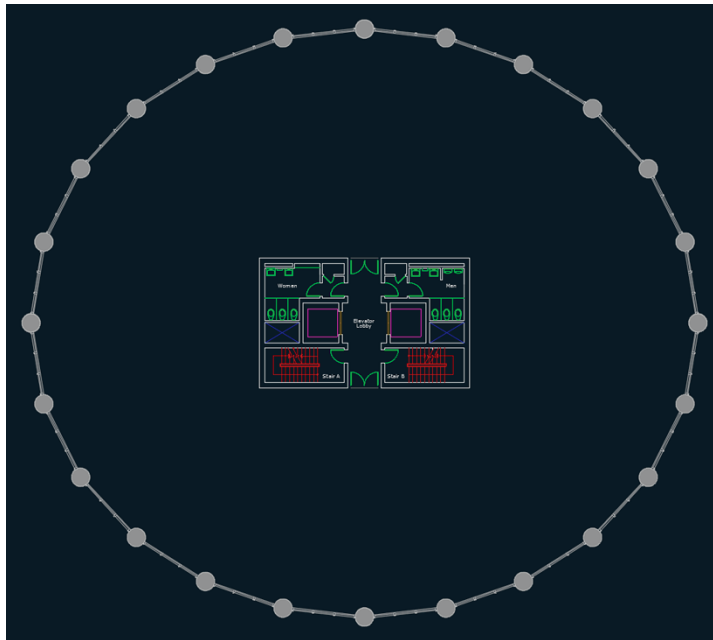
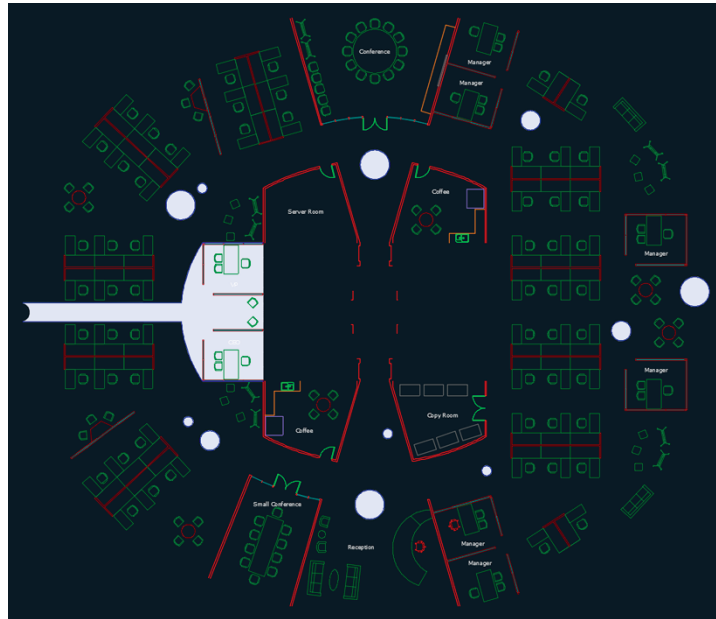

FIGURE 9.25 Core and shell drawing
FIGURE 9.26 Tenant improvement floor plan
1. Return to the book's web page, browse to Chapter 9, get the files `Ex09-CoreShell.dwg` and `Ex09-Tenant.dwg`, and open them. Figure 9.25 shows the building core and shell. Figure 9.26 shows the objects owned by the tenant.